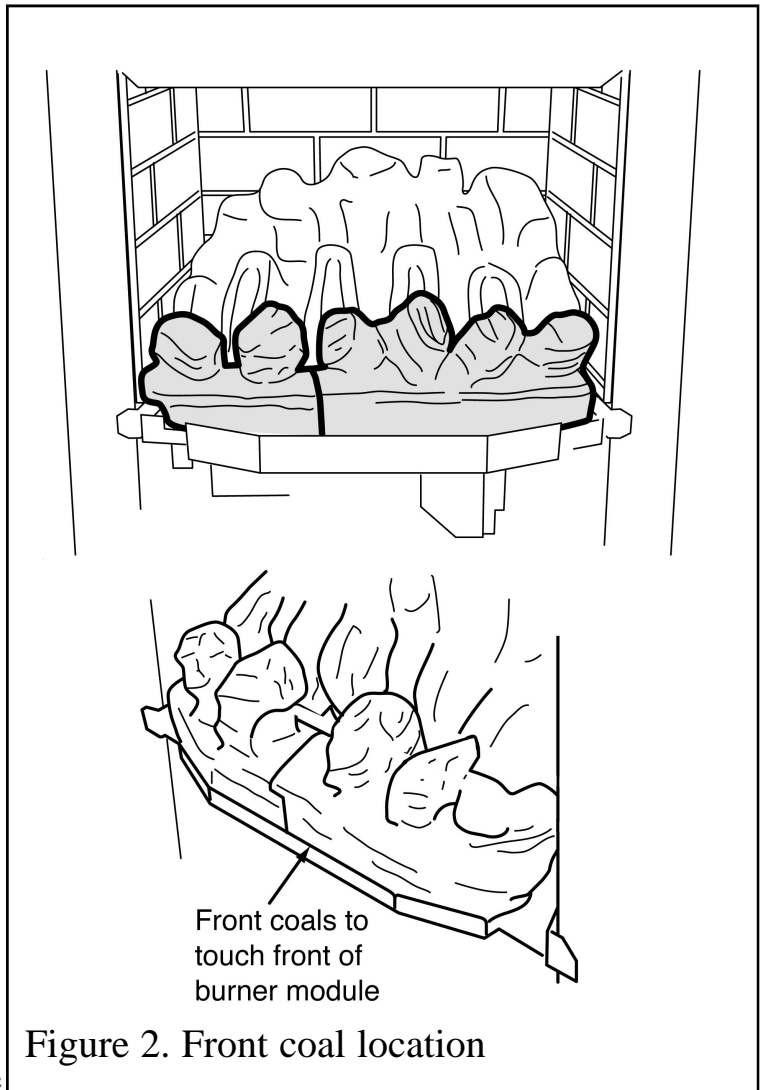

Figure 2. Front coal location
2. Place the left-hand ceramic front coal in position in front of the base coal. The front of the ceramic coal should touch the front of the burner module (See figure 2).
3. Place the right hand ceramic front coal in position in front of the base coal. This should overlap the left-hand coal. Push the two sides together to minimise the gap. The front of the ceramic coal should touch the front of the burner module (See figure 2).
4. It is important that the front ceramics are positioned correctly and do not cover the burner ports in any way (See figure 2).